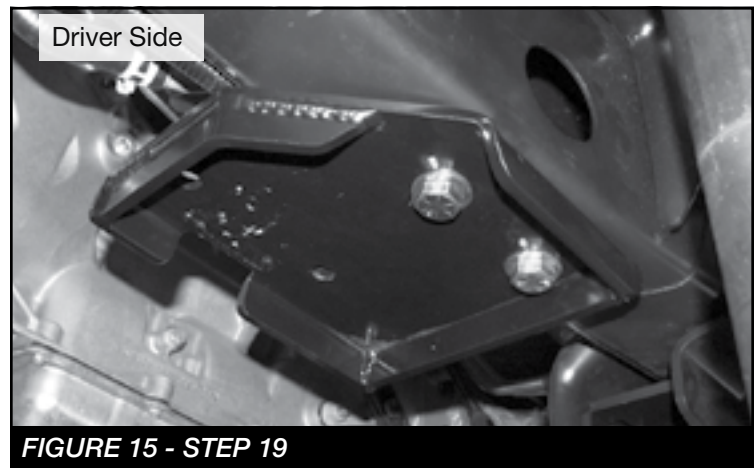

FIGURE 15 - STEP 19
19. Install FT30768 (Driver frame bracket) & FT30769 (Passenger frame bracket) using the FT30698 (nut tab) and 1/2" X 1-1/2" bolts, lock & flat washers. **NOTE: Insert the nut tab through the factory hole on the side of the frame. Torque to 127 ft-lbs. SEE FIGURES 15**